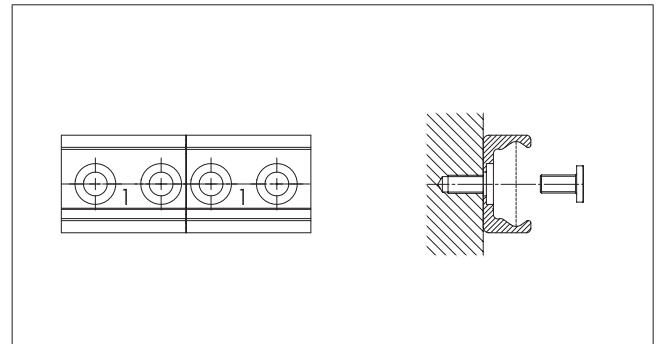

Fig.87
- (1) Fix the individual rails on the mounting surface by tightening all screws except for the last one on the rail joint.
- (2) Install the end fixing screws without tightening them (see Fig.87).